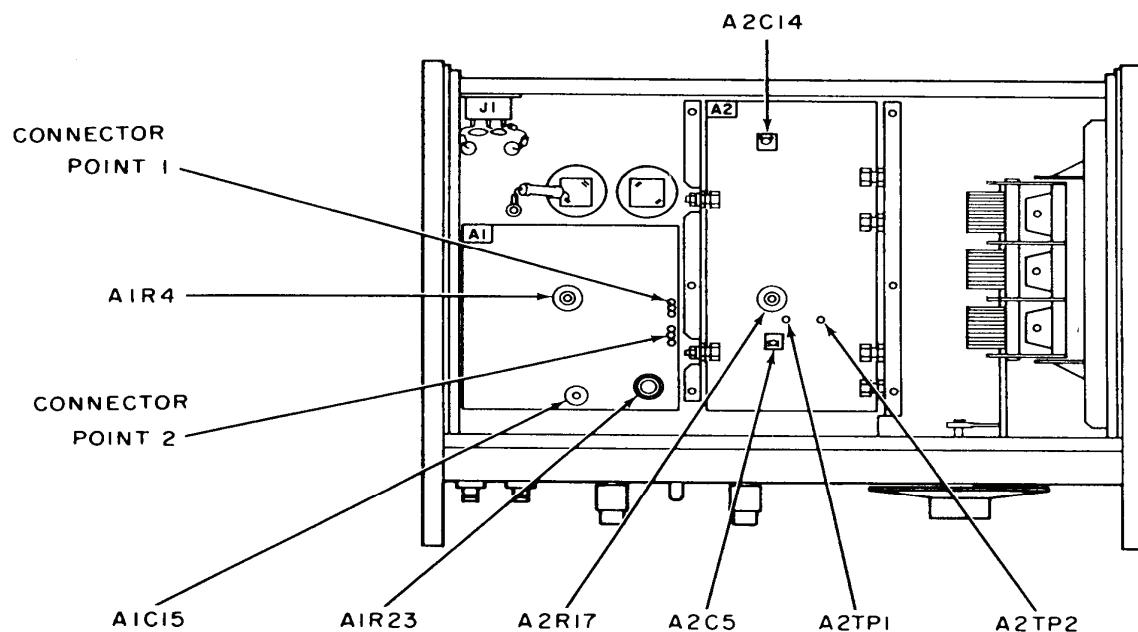
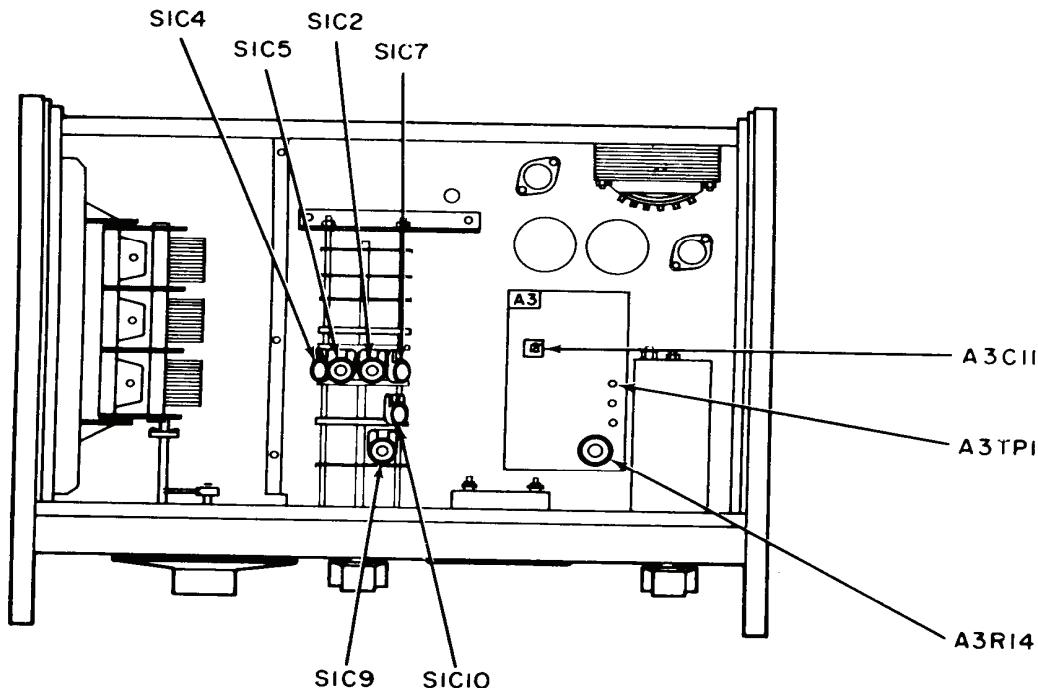

Figure 1. Test instrument - bottom view.
Figure 2. Test instrument - top view.
- (1) Remove TI bottom cover and oscillator shield.
- (2) Connect multimeter with a $1\text{ k}\Omega$ resistor in series between A2TP1 (fig. 1) and chassis ground.
- (3) Connect audio analyzer to TI using a $50\ \Omega$ feedthrough termination.
- (4) Position controls as listed in (fig. 2) below.
- (5) Adjust **AMPLITUDE** controls for a 3.0 V indication on TI meter. Multimeter will indicate between 100 and 120 mV ac.
- (6) Adjust A2R17 (fig. 1) for minimum distortion (R).
- (7) Connect multimeter between A2TP2 (fig. 1) and chassis ground.
- (8) Connect frequency counter to TI, using a $50\ \Omega$ feedthrough termination.
- (9) Turn **FREQUENCY** dial to **10**.
- (10) Adjust S1C2 and S1C7 (fig. 2) alternately until multimeter indicates -350 mV and frequency counter indicates 10.0 kHz (R).
(11) Turn **FREQUENCY** dial to 1.
(12) Readjust S1C2 and S1C7 (fig. 2) until multimeter indicates -350 mV and frequency counter indicates 1.00 kHz.
(13) Turn **FREQUENCY** dial until frequency counter indicates 5.0 kHz.
(14) Remove **FREQUENCY** dial knob and loosen four dial retaining screws. Slip **FREQUENCY** dial until 5 on dial is aligned with reference marker. Tighten retaining screws and reinstall **FREQUENCY** dial knob.
(15) Repeat (9) through (14) above until TI is within tolerance in (10) and (12) above.
(17) Adjust S1C5 (fig. 2) and A2C5 (fig. 1) alternately until frequency counter indicates 10.0 MHz and multimeter indicates -370 mV (R).
If TI will not oscillate, adjust S1C10 (fig. 2) slightly.
(18) Turn **FREQUENCY** dial to **1**.
(19) If necessary, readjust S1C5 (fig. 2) and A2C5 (fig. 1) alternately until frequency counter indicates 1.0 MHz and multimeter indicates -350 mV (R).
(20) Turn **FREQUENCY** dial to **5**.
(21) Adjust S1C10 (fig. 2) until frequency counter indicates 5.0 MHz and multimeter indicates -310 mV (R).
(22) Repeat (16) through (21) above until no further adjustment is required.
(23) Set **FREQUENCY RANGE** switch to **X100K** and turn **FREQUENCY** dial to **10**.
(24) Adjust S1C4 and S1C9 (fig. 2) until frequency counter indicates 1.00 MHz and multimeter indicates -275 mV (R).
- (1) Adjust **AMPLITUDE** controls for a 3.00 V indication on multimeter.
- (2) Adjust A1R23 (fig. 1) for a 3 V indication on TI meter (R).
- (3) Adjust **OUTPUT AMPLITUDE** and **VERNIER** controls for a 3.075 V indication on multimeter.
- (4) Adjust A3R14 (fig. 2) for a +2.5 indication on TI meter percent scale (R).
- (1) Adjust A2C14 (fig. 1) fm best overall flatness between 1 and 10 MHz.
- (2) Set **FREQUENCY RANGE** switch to **X1M** and turn **FREQUENCY** dial to **10**.